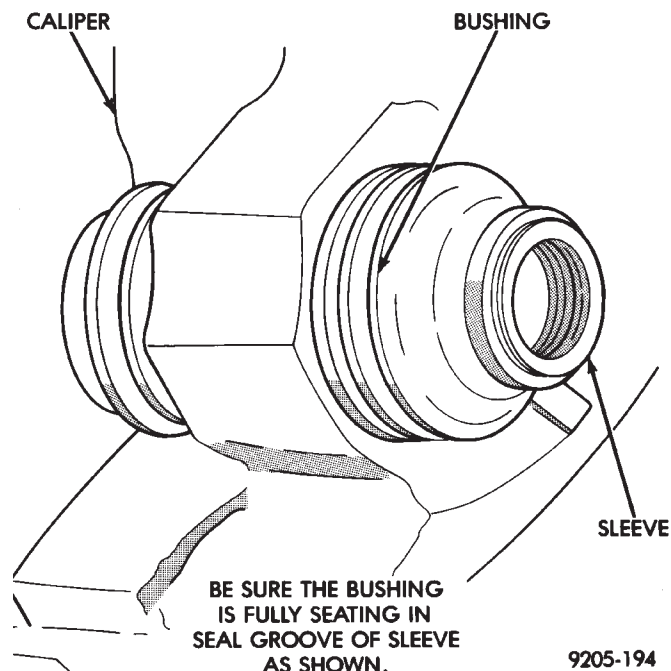

Fig. 8 Installed Caliper Bushing Sleeve
(3) Holding the sleeve in place work the other end of the bushing over the end of the sleeve and into the seal groove (Fig. 8). Be sure the other end of the bushing did not come out of the seal groove in the sleeve.
(4) When the sleeve is seated properly into the bushing. The sealed for life bushing can be held be-